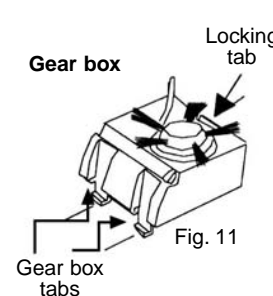
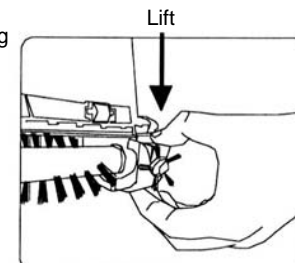

Fig. 11
Fig. 12
4. Push in on the locking tab of the gear box and lift gear box to remove. (Fig. 11 & Fig. 12)